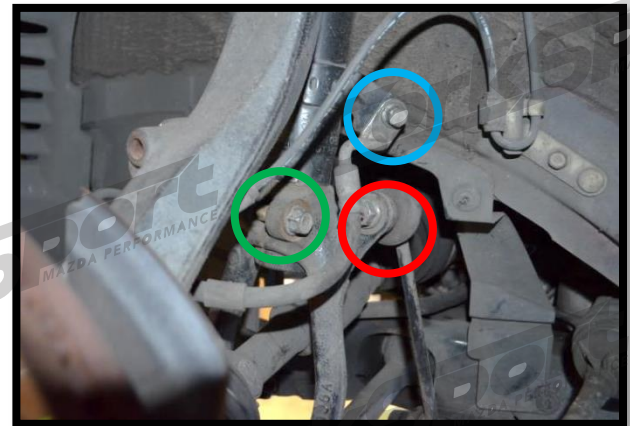

Figure 2b
- b) Free the brake line from the strut (blue circle in Figure 2b).
- c) Remove the 14mm nut fastening the sway bar end link to the strut bracket (red circle in Figure 2b).
- d) Remove the 14mm bolt pinching the strut bracket onto the base of the strut (green circle in Figure 2b and Figure 2c).
- j) Re-secure the brake line using the 12mm bolt as shown with blue circle in Figure 2b.
- k) Attach the end link and reinstall the 14mm nut (red circle in Figure 2b). Tighten to 25 ft lbs.
b) Free the brake line from the strut by removing the 12mm bolt (blue circle in Figure 2b).
c) Remove the 14mm nut fastening the sway bar end link to the strut bracket (red circle in Figure 2b).
d) Remove the 14mm bolt pinching the strut bracket onto the base of the strut (green circle in Figure 2b and Figure 2c).